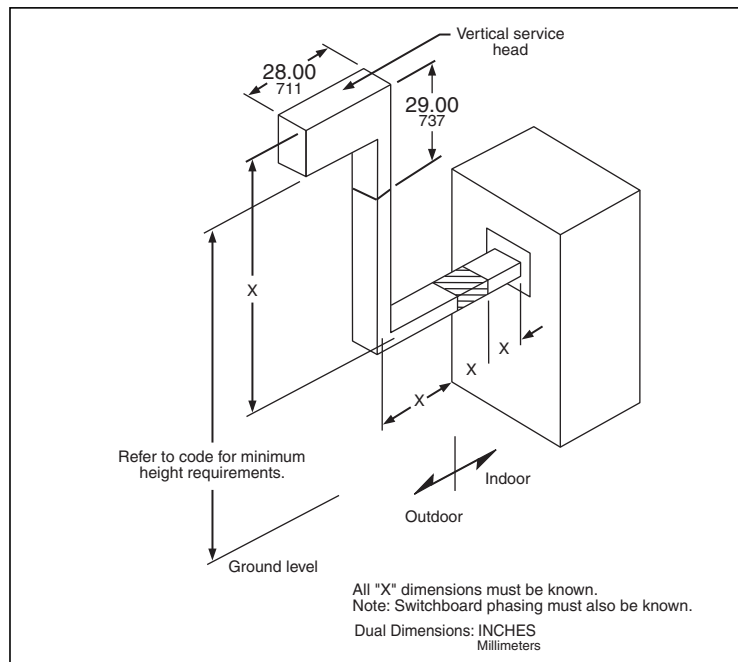
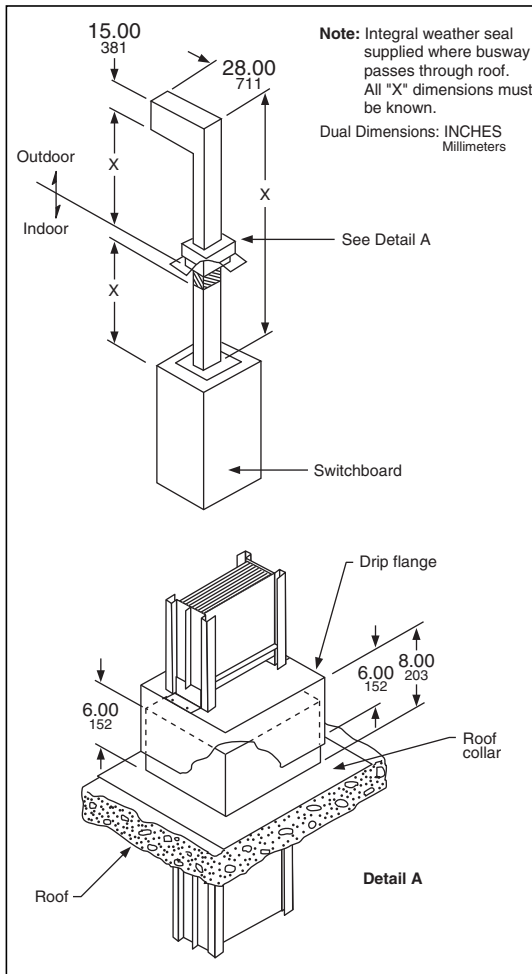

Figure 6: Typical Vertical Service Head Application
Figure 7: Vertical Service Head Penetrating a Roof
If the flatwise busway elevation is too low to allow a cable connection that would comply with the electrical code, the vertical service head (SV) could solve this issue. The SV is attached to busway that exits the rear of the switchboard (see Figure 6) and is turned upward or is attached to busway that exits the top of a switchboard and penetrates the roof utilizing a drip flange and roof collar (see Figure 7 on page 26).
If a vertical service head extends through a roof, the roof must be sealed around the busway. To do this, a fixed collar must be factory assembled onto the section of busway that penetrates the roof. The contractor can then flash from the collar to the roof. A roof flange kit can be ordered from the factory to make the flashing job easier. The kit consists of a drip flange and a roof collar. When installed, the roof collar must be sealed to ensure that no moisture gets indoors. The roof flange kit will accommodate a roof slope up to one inch per foot. See Detail A in Figure 7 on page 26.